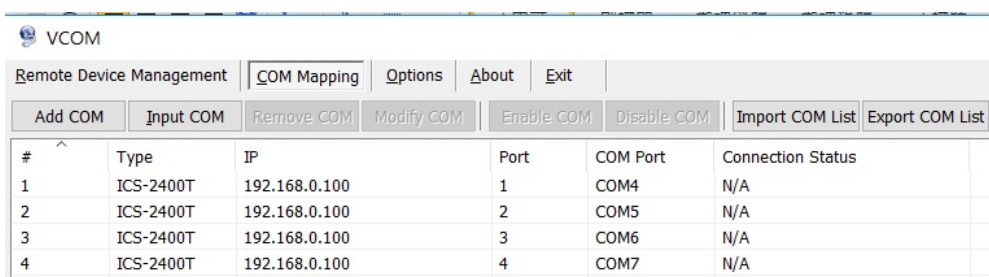

Figure 5-3-3 : Virtual COM Ports
2. Once a server has been found, select it to add it to the COM mapping list and Click "OK" to take effect as shown in Figure 5-3-3.
3. Virtual com ports are generated as shown in Figure 5-3-3.